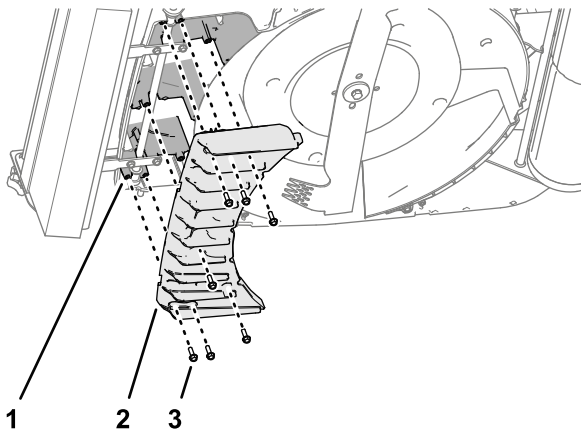

Figure 16
1. Align the holes in the new front fin with the holes in the supports of the mower deck (Figure 16).
2. Assemble the front fins to the mower deck (Figure 16) with the 7 self-tapping, flange-head screws (6 x 20 mm) that you removed in Removing the Front Fins \(page 5\).